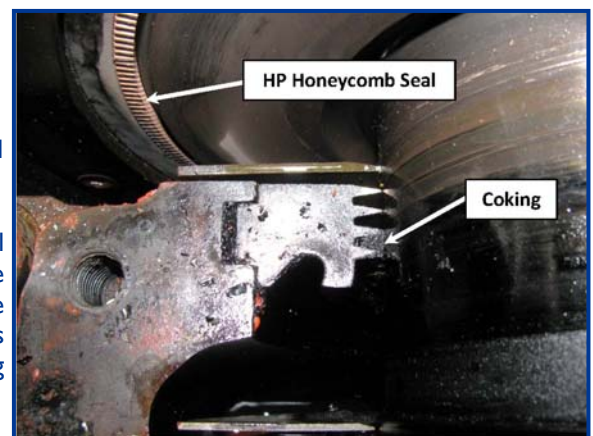

FIGURE 1
One of our customers has been experiencing chronic vibration on the thrust bearing (inlet) end of their Ingersoll-Rand E-520 tail gas expander. Inspection of the bearing housing area during a recent shutdown revealed severe coking of the bearing housing end seal, as shown in the Figure 1. It is not unusual for this area to run extremely hot, as it is adjacent to the high pressure (HP) casing seal, which can be prone to wear and excessive leakage. The HP seal is a long stepped honeycomb style with extremely tight design clearances, and tends to rub and wear over time. As the seal wears, 1200 degF inlet gas will leak past the seal and impinge directly on the end of the thrust bearing housing. The honeycomb seal can be seen in the figure.